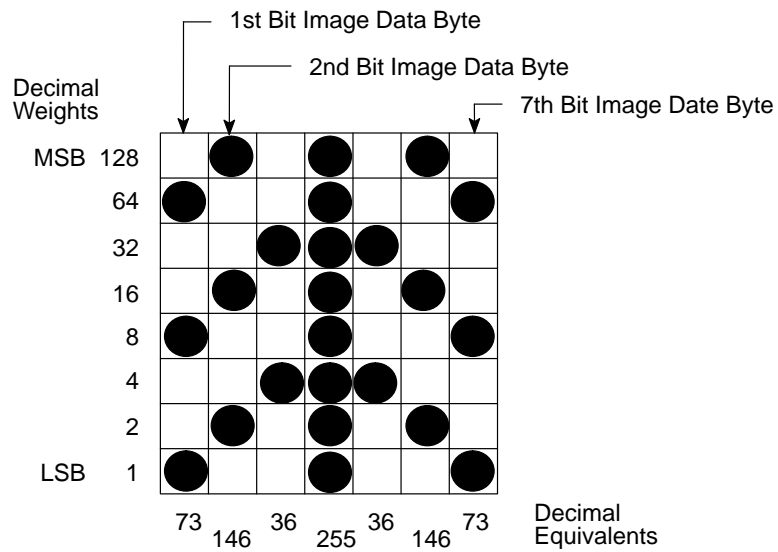
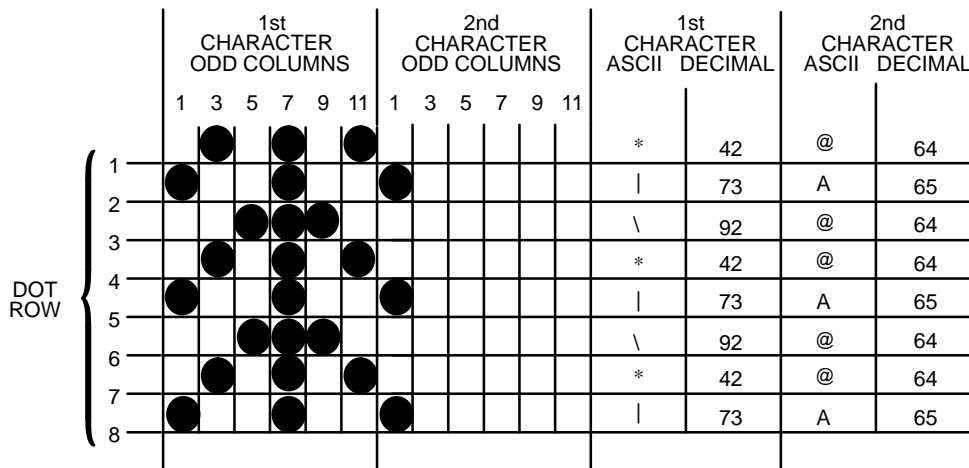

Figure 5-3. Bit Image Pattern Plan
Figure 5-8. Odd Dot Plot Pattern Plan
1. On a quadrille pad or graph paper, lay out the graphic pattern you want to print. (See Figure 5-3.)
P-Series Plot Mode plots the image from the horizontal bit pattern. Figure 5-8 duplicates the pattern shown in Figure 5-3 but is modified for Odd Dot Plot. Eight dot rows are required, two characters per row, six columns per character.